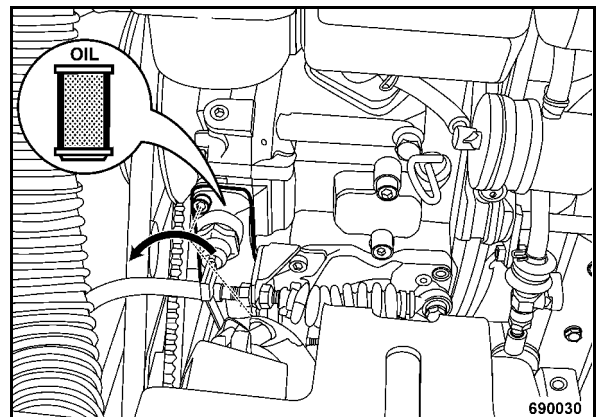

Fig. 59
- Unscrew both screws and take off the oil filter flange (Fig. 59).